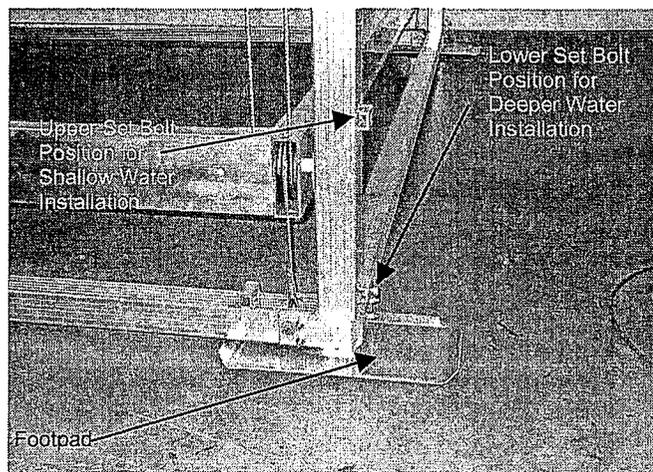

FIG. 34
A leveling footpad has been mounted at the factory in each of the 4 corners of the lift. The footpads are locked in position by the leg set bolt. (See FIG. 34).
The set bolt is mounted in the lower position at the factory. This position is for deeper water installations. The upper position is for shallow water installations. Remount the set bolt if required for your installation. (See FIG. 34).
3. Level the lift by adjusting the footpads accordingly. See FIG. 34.